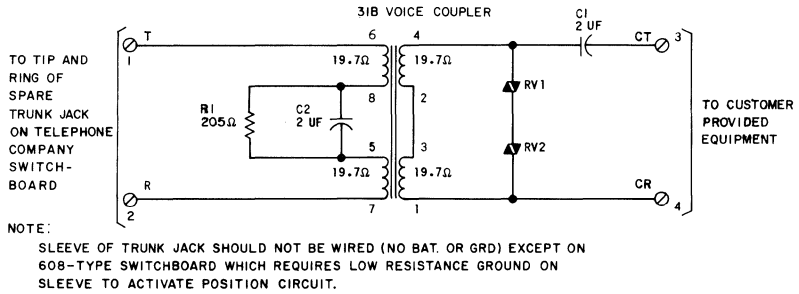

Fig. 2—Connections for 31B Voice Coupler
- 6.01** Refer to Fig. 2 and 3 for a typical connecting arrangement.